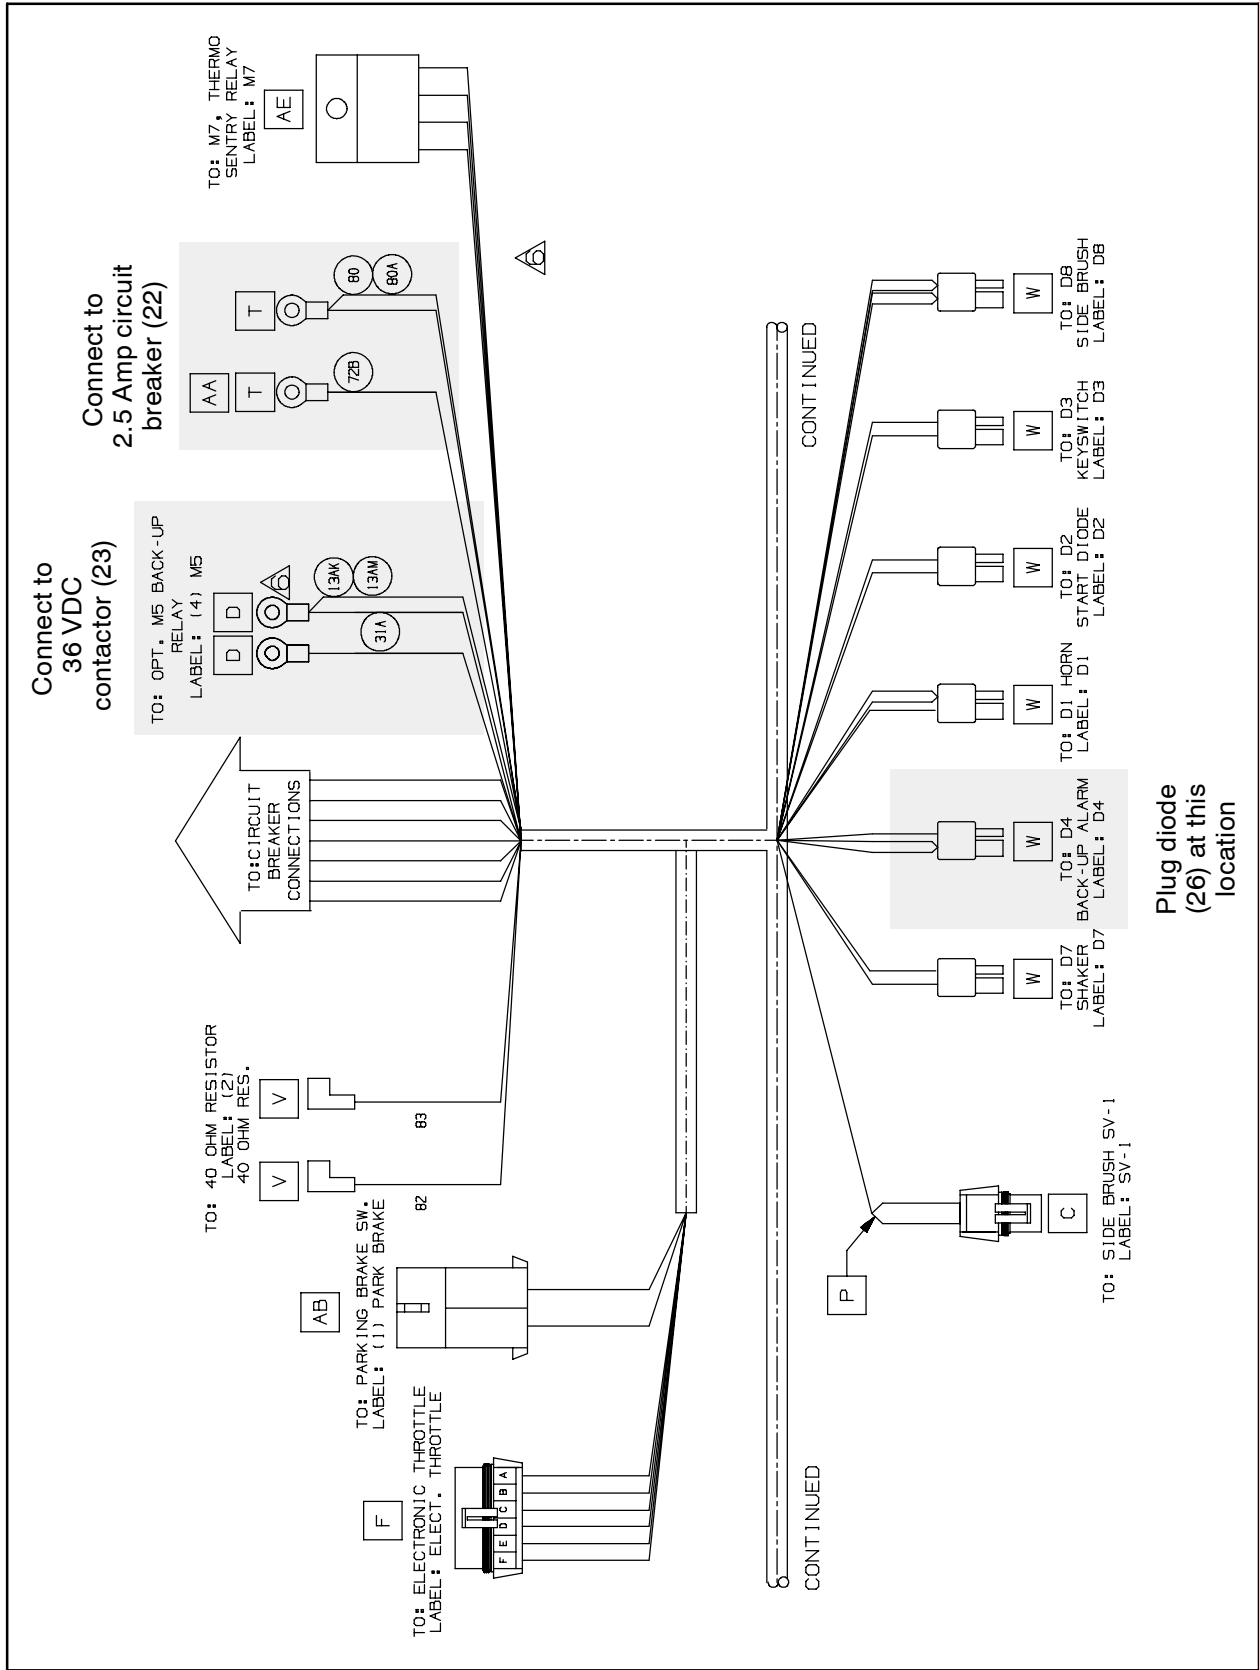

FIG. 12
28. Connect the main wire harness to the 2.5 Amp circuit breaker (22) and 36 VDC contactor (22) installed in the circuit breaker bracket. Refer to Fig. 11 and Fig. 12.
29. Plug the diode (26) into the main wire harness. Refer to Fig. 12.